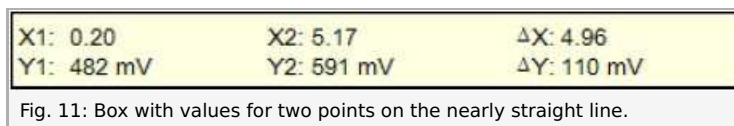

Fig. 11: Box with values for two points on the nearly straight line.
- When you divide the value for  $\Delta y$  by the value for  $\Delta x$  from the upper right box (see Fig. 11) you get the slope.